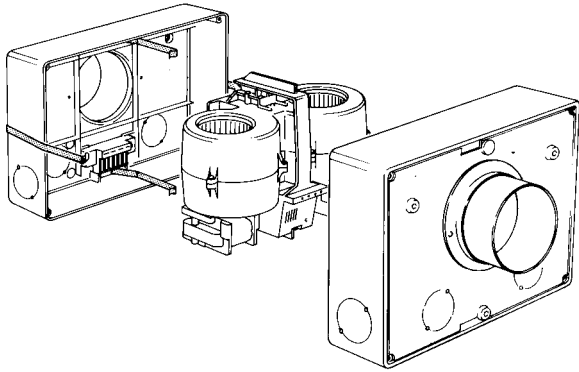

Fig. 3. General view, cover and fan unit removed.
- b) Separate the two halves of the unit by releasing the two clips on either side of the unit. Release the two internal clips and remove the fan unit. See Fig. 3.